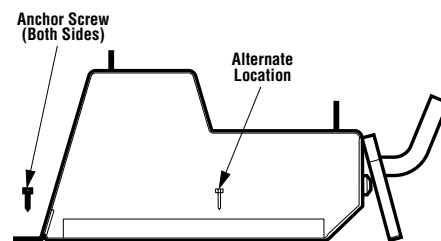

Figure 8
Preliminarily anchor the grate to the fireplace/firebox floor with the two (2) screws provided (Figure 8). Loosen screws and proceed with the installation.